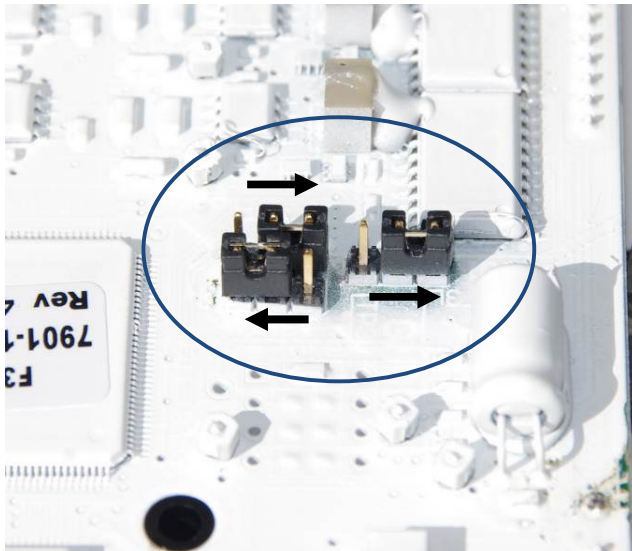

Figure 39: Three (3) Jumpers on Main PCB.
- Check that three (3) jumpers are connected in the correct positions on the main PCB. Refer to Figure 39.